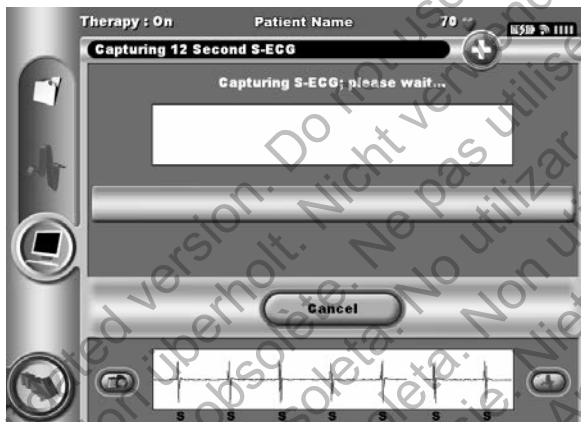
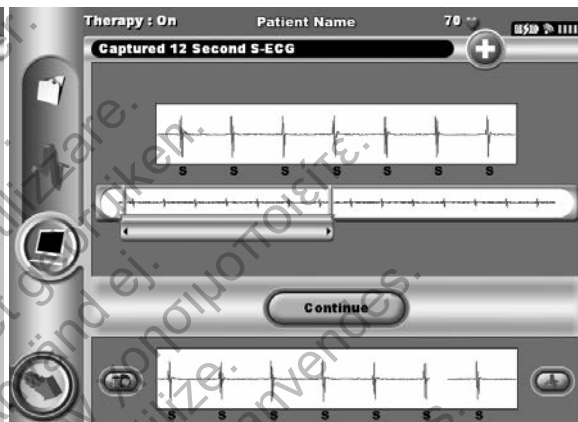

Figure 43: Selecting the Capture S-ECG button
Figure 44: Captured S-ECG rhythm strip
1. Select the Capture S-ECG button located to the left of the Live S-ECG window (Figure 43). The S-ECG will scroll across the display screen. Calipers appear below the Captured S-ECG rhythm strip (Figure 44). Each 12-second recording is date and time stamped according to the programmer's date and time setting.